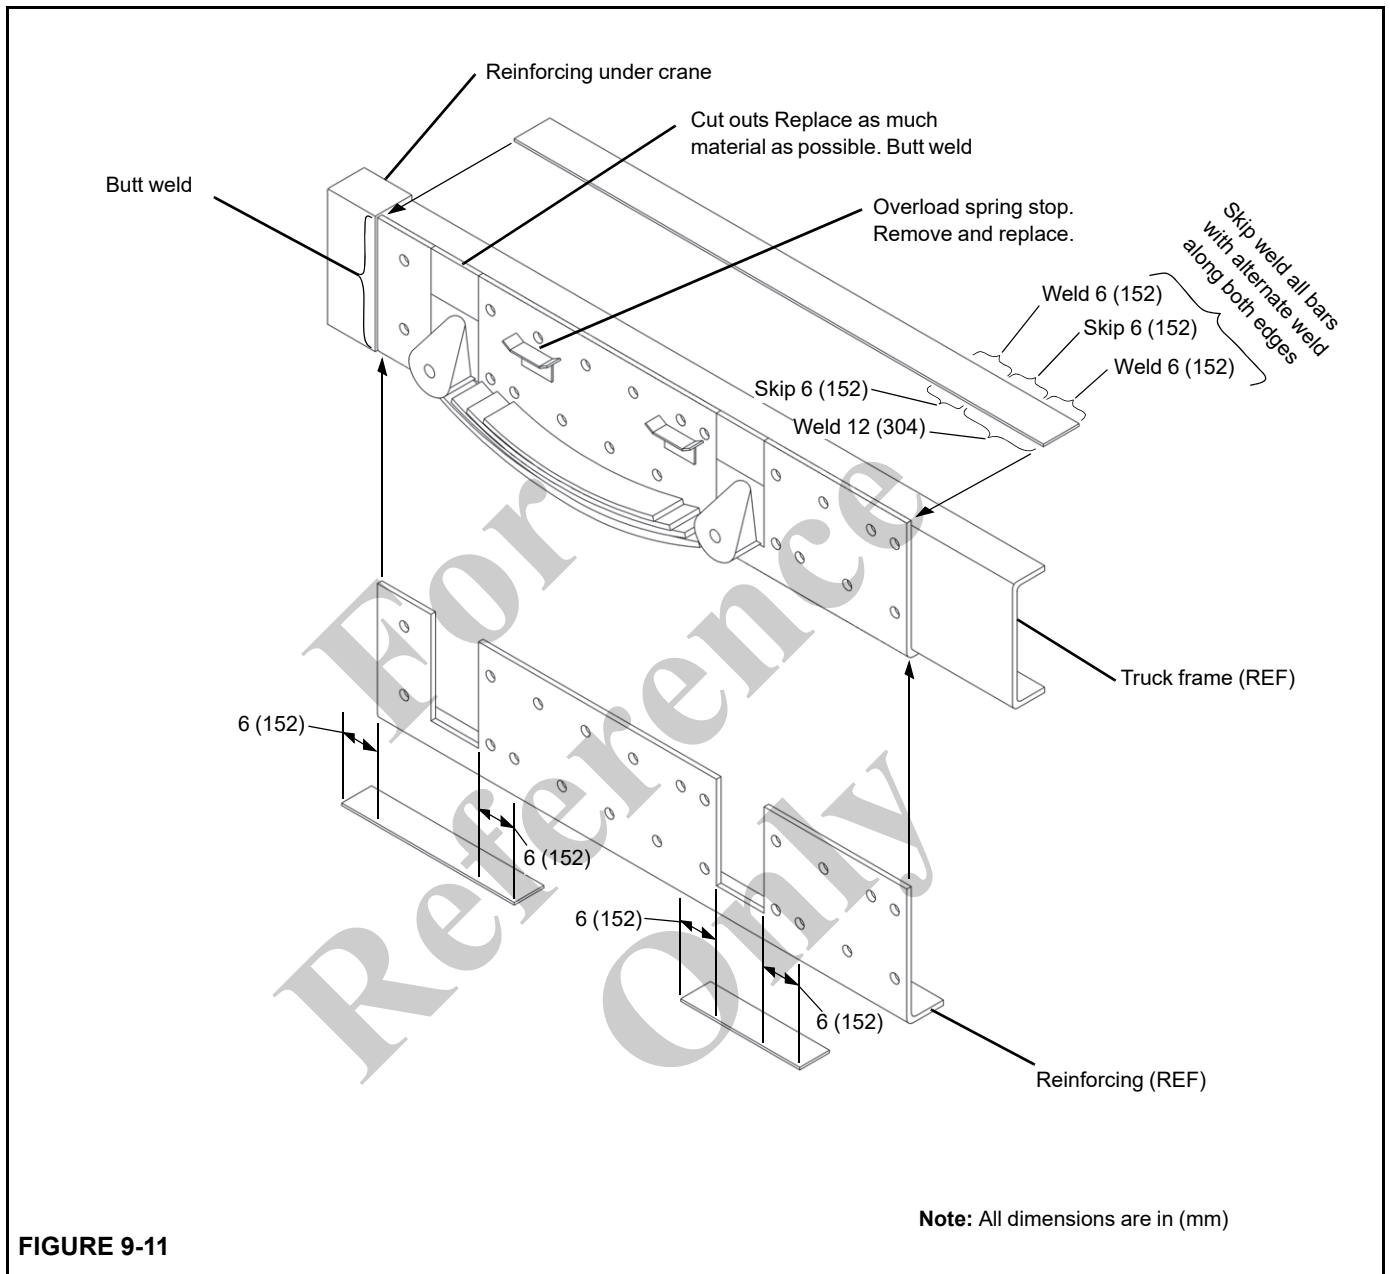

FIGURE 9-11
5. If the frame through the rear suspension does not meet the minimum specifications for RBM and section modulus, it can be reinforced by adding a reinforcing angle as shown in Figure 9-11. See Section Modulus Table B on page 9-10 for the required size of reinforcing. Strip all easily removable equipment from the frame through the suspension such as spring stops, etc. Butt the reinforcing angle up against the reinforcing forward of the suspension and mark the areas that will require cutting so that the angle will slide up around the spring hangers and against the existing truck frame and forward reinforcing. Torch out the marked areas in the long leg of the angle deep enough so that the lip of the angle can be slid up from the underneath the frame to contact either existing truck frame or spring hanger brackets (if they extend down below the existing truck frame). If reinforcing angle is to be welded to truck frame, cut out plug weld hole pattern as in Figure 9-9.